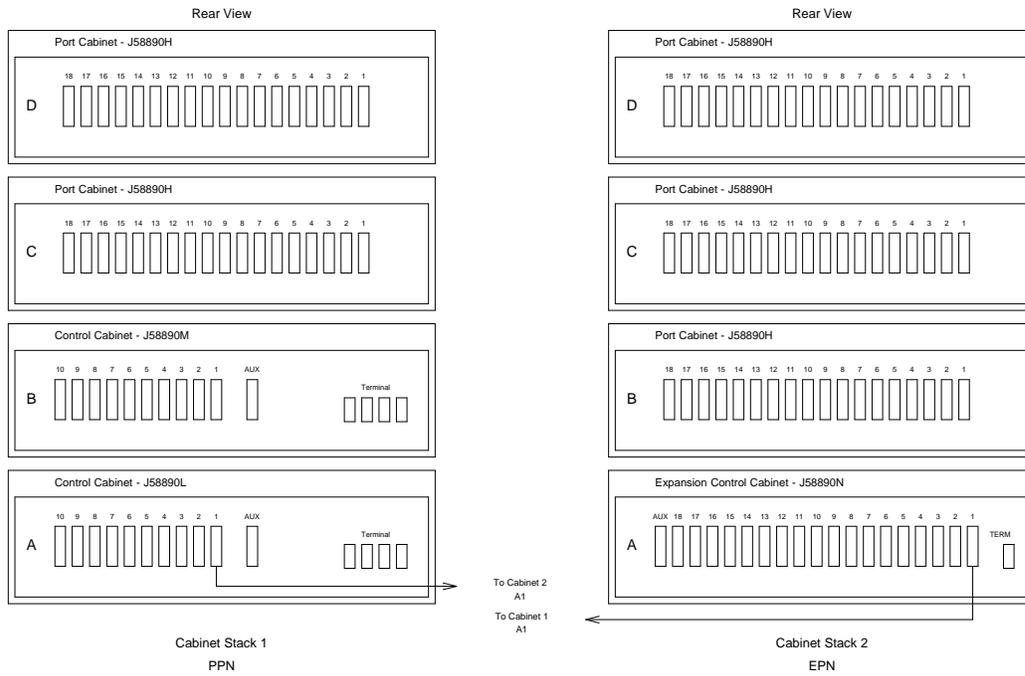
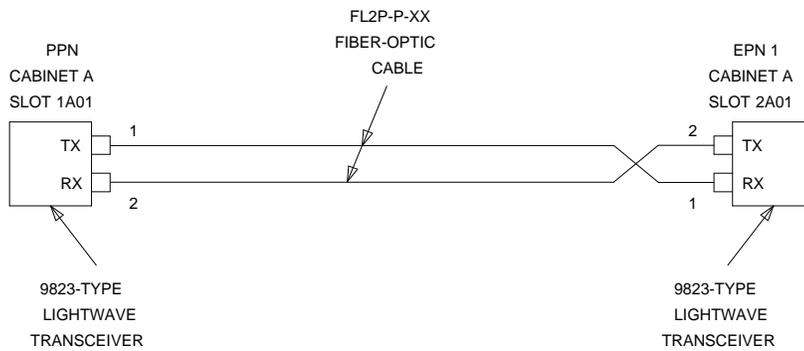
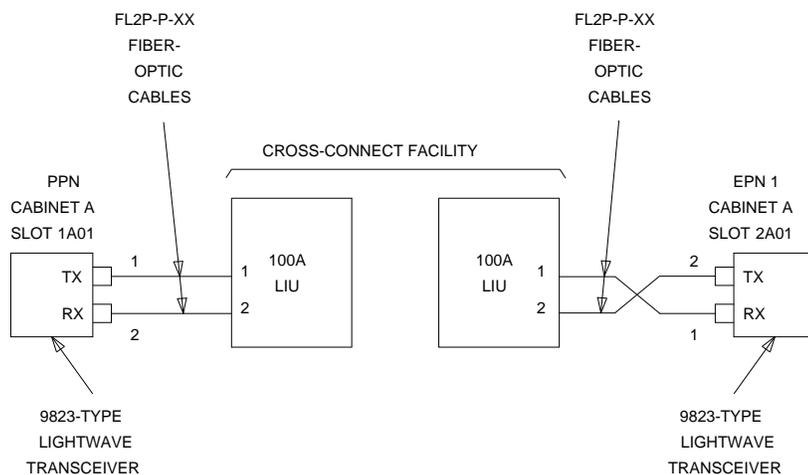

Figure 2-28. High-Reliability G3i V4 with Two Port Networks
Figure 2-29. Fiber-Optic Connections PPN to EPN
Figure 2-30. Fiber-Optic Connections PPN to EPN
1. Behind control cabinet A of the single-carrier PPN (see Figure 2-28 and Figure 2-29):
1. Behind control cabinet A of the single-carrier PPN (see Figure 2-28 and Figure 2-30):